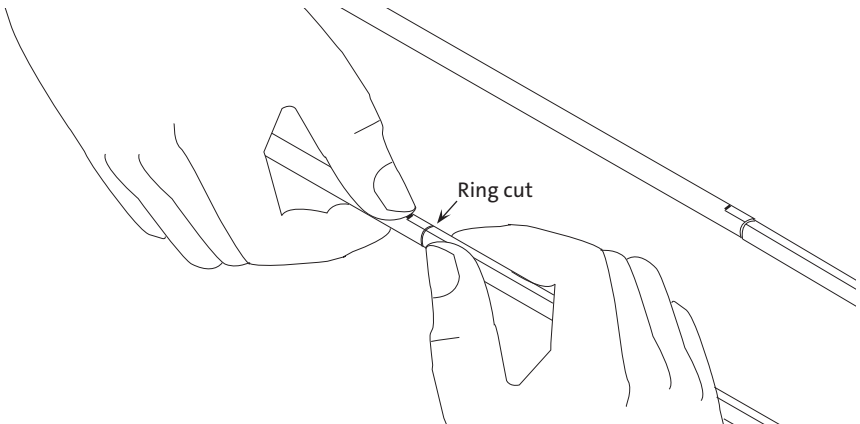

Figure 18
- Flex the tube at one mark to snap the tube where it was ring cut with the buffer tube cutting tool (Figure 18).